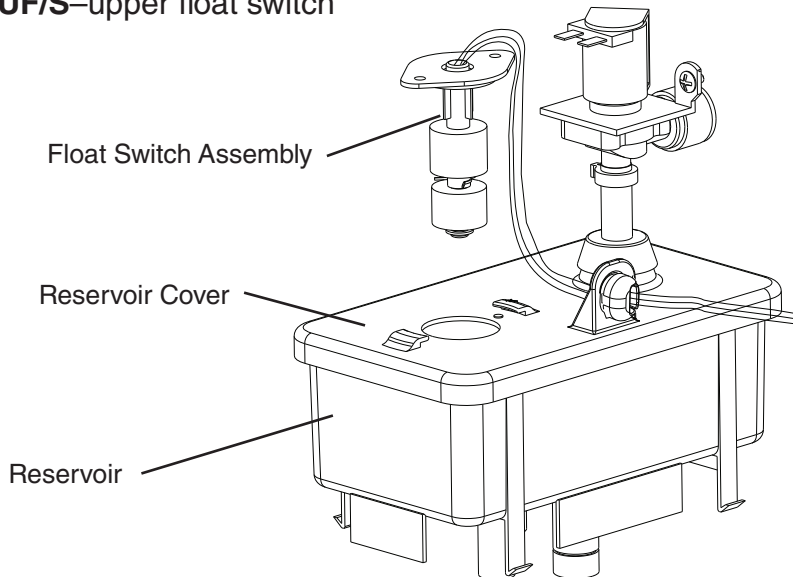

Fig. 5
- 2) Remove F/S assembly from the reservoir cover. See Fig. 5.